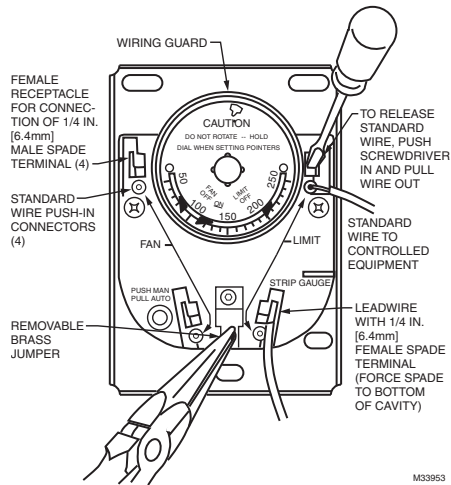

Fig. 5. Location of Wiring Connections.
Disconnect power supply before beginning installation to prevent electrical shock or equipment damage. All wiring must comply with local electrical codes and ordinances or in the absence of local codes with the National Electrical Code ANSI C1-1981 -NFPA 70. Follow burner or furnace manufacturer's instructions if available; otherwise, see Fig. 5 and proceed as follows.
The brass jumper is the breakaway type. It must be removed when the limit is used in the low voltage circuit. To remove jumper, break with a needlenose pliers and remove completely. Once removed, it is not replaceable. See Fig. 5 for location.
When connecting cable or conduit to this controller, use care to avoid strain on the control case. Connections can be made to standard wire push-in terminals or female receptacles for 1/4 in. (6.4 mm) male flag connectors on both the fan and limit switches (Fig. 5).
screwdriver in and hold while inserting wire into terminal (Fig. 5). Remove screwdriver. If stranded wire is solder-dipped, it can be pushed directly into terminal holes.
3. Push male flag connector directly into the female receptacle. Make sure that the flag is forced to the bottom of cavity and wire is in the channel (Fig. 5).